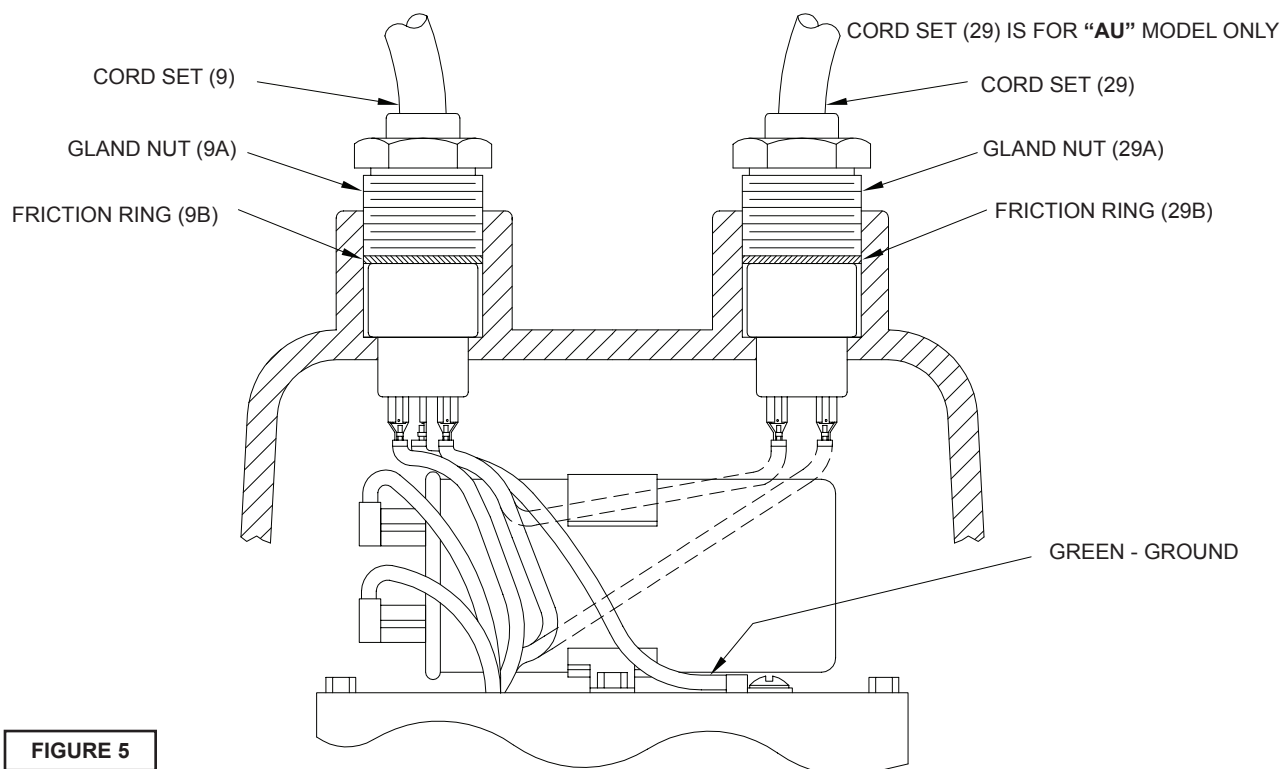

FIGURE 5
BP & SE Series, Motor - To examine or replace the motor (1) or bearing (4), remove body and impeller as per section F-2.1. Drain oil from motor housing as per section F-1.2. Remove gland nut (9a) and friction ring (9b) from motor housing (14). Pull cord through opening and disconnect the motor wires from the terminals on cable (9), see Figure 5. Remove socket head screws (15) and lift motor housing (14) from seal plate (2). Remove o-ring (13) and inspect for breaks. Loosen motor screws and pull motor (1) straight up and off seal plate (2). Inspect all parts for signs of wear and check motor resistance values.
On "AU" series pumps gland nut (29a) and friction ring (29b) must also be removed from motor housing (14) and pulled through opening and motor wires from the terminals on cable (2), see Figure 5.
On **BP & SE Series**, slip motor wires through opening in motor housing (14) see Figure 5. Connect motor wires to cord set as per Figure 7. Place friction ring (9b) and gland nut (9a) into motor housing (14) and tighten gland nut to 17.5 ft. lbs. On **"AU"** series pumps slip float wires through opening in motor housing (14) and connect to float cable (29) see Figure 8. Place friction ring (29b) and gland nut (29a) into motor housing (14) and tighten gland nut to 17.5 ft. lbs.